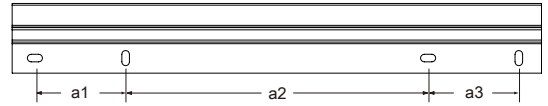

Fig.1
- ① Open the product packaging, and check whether the product has any cosmetic or functional damage; if yes, please return it to the dealer.
- ② After selecting the location of the mirror cabinet, check whether the wall is solid, measure the distance of the holes (a1,a2,a3) in the aluminum alloy bar with a tape measure and mark the wall with a level and pencil (Fig. 1).